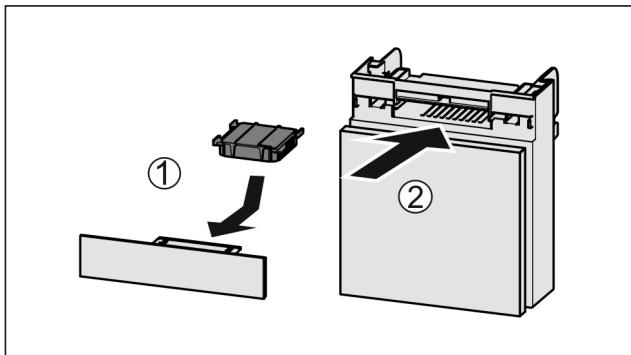

Fig. 99
- ▶ Insert the carbon filter as shown in the diagram Fig. 99 (1).
- ▶ Push the compartment in Fig. 99 (2).